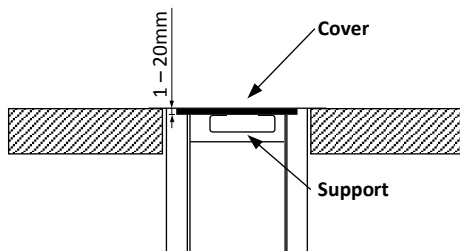
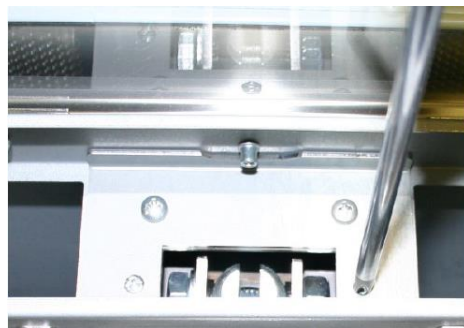

Fig 5
Fig 6
3. Depending on the thickness of the worktop and the cover, it is possible to achieve an adjustment of 20mm (Fig 5). This adjustment is possible by tightening or un-tightening the two screws that secure the central pivot of the actuator (Fig 6).